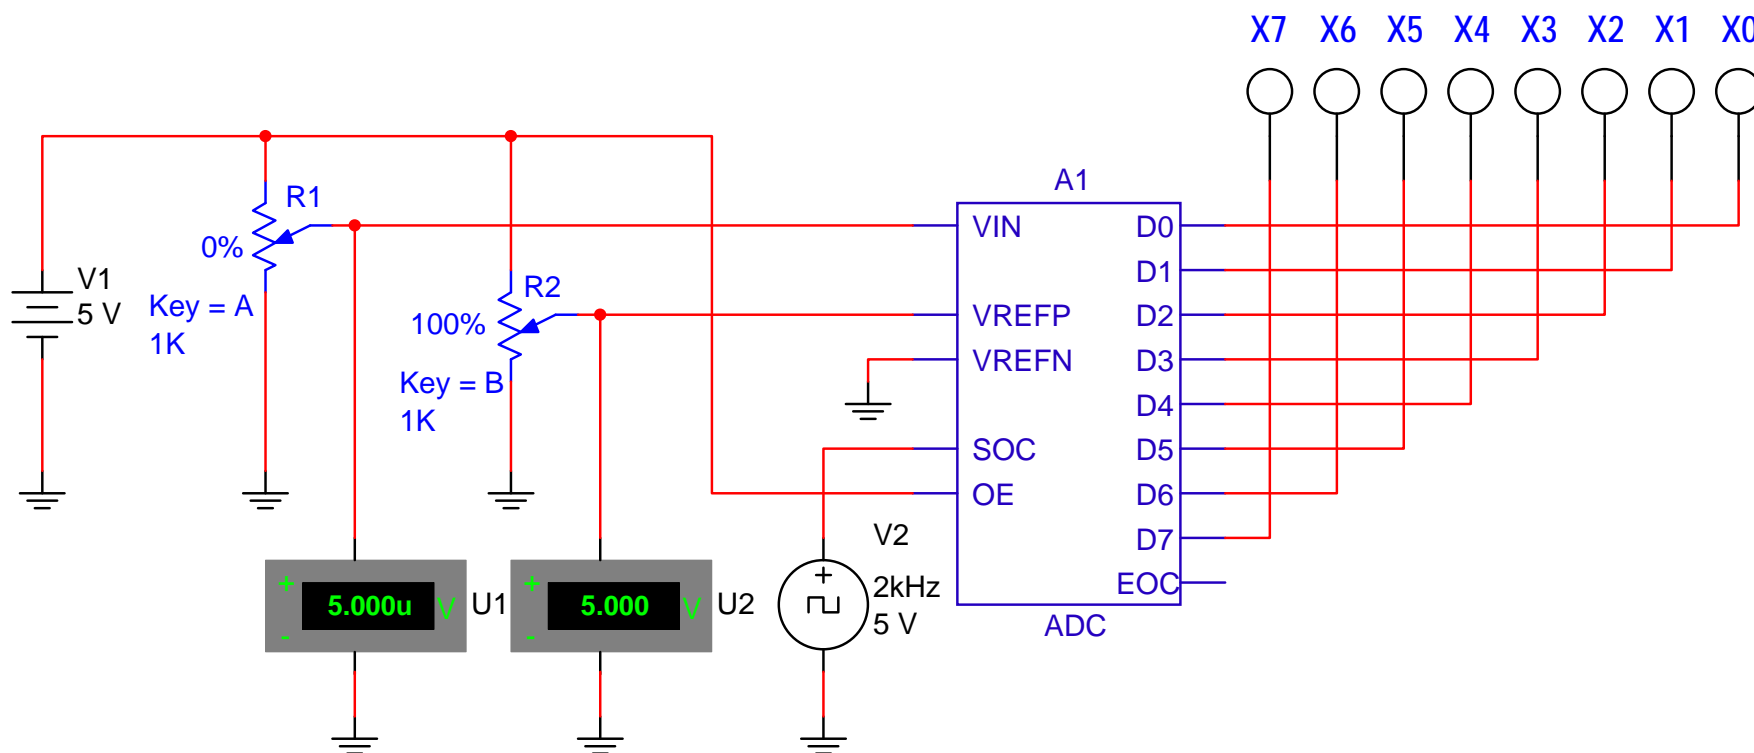
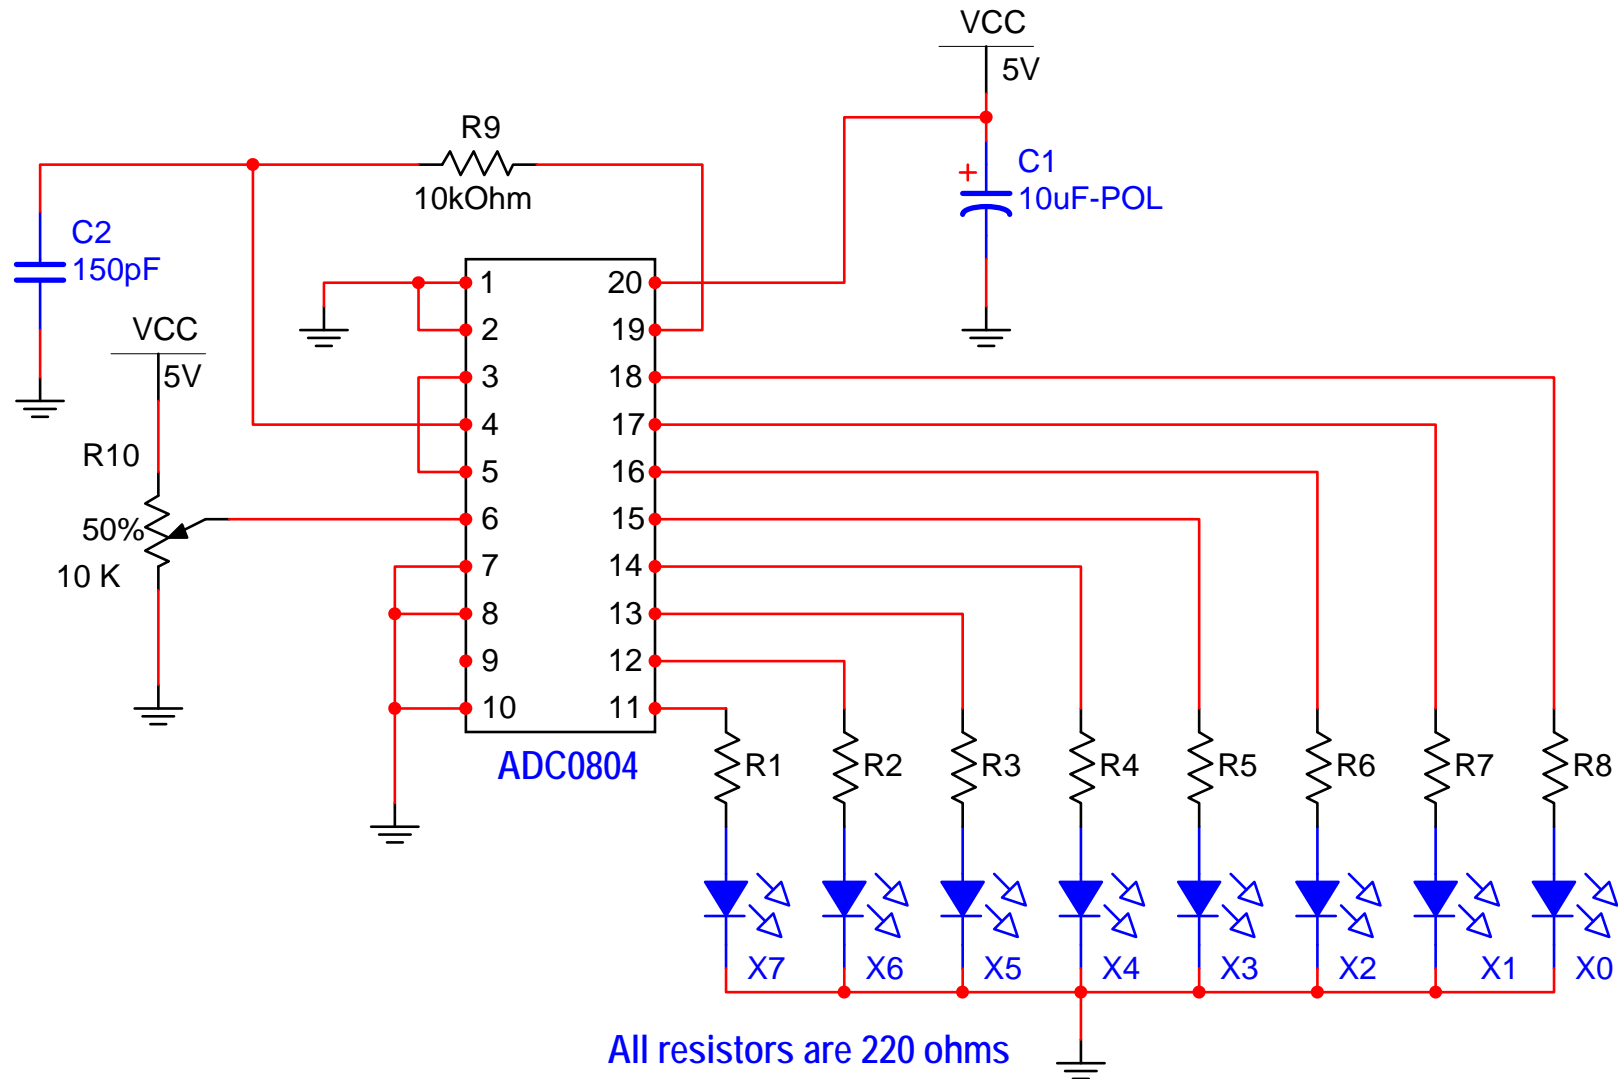

Figure 5-1. ADC output with the analog input voltage equal to approximately 0V and +Vref = 5V
Figure 5-3. ADC0804
Refer to figures 5-1 & 5-2 below for a schematic of such implementation.
Referring to figures 5-1 & 5-2, we see an adjustable reference voltage available to +Vref (VREFP in the schematic) via voltage supply V1 and potentiometer R2. The varying analog input signal is also derived from V1 using potentiometer R1 to provide signal variation to the VIN input of the ADC.
Therefore, in the circuits of figure 5-1 & 5-2:
Referring to figure 5-1:
1. Build the circuit indicated in figures 5-1 & 5-2 using Multisim. Choose 0.1% increment for potentiometers R1 & R2 and set adjustment keys as shown.
Now that you have tested the circuit to satisfy the problem statement using Multisim, it is time to hardwire the circuit depicted in Figures 5-1 & 5-2 using real components. As you did in the previous labs, you are going to indicate the list of components and the equipment that you need to complete this task. Refer to figure 5-3 below for a schematic of the hardwired circuit.
1. Build the circuit indicated in figure 5-3 using a breadboard and actual components. Refer to the National ADC0804 data sheet for pin function descriptions.
2. Add another 10K potentiometer to the circuit of figure 5-3 such that the wiper is connected to pin 9 ($V_{ref} / 2$). Connect the potentiometer's remaining pins to V_{CC} & ground. The new potentiometer should now be connected in a manner similar to R2 in figures 5-1 & 5-2. Adjust the potentiometer such that 1.25V is applied to pin 9 of the ADC0804. Repeat the measurements performed for Table 5-2. How do these results compare the results in Table 5-1, question #3 in the Multisim section?